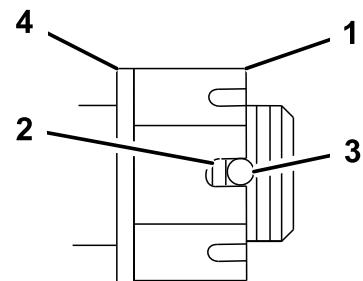

Figure 58
4. Check the distance from bottom of slot in nut to inside edge of hole. Two threads or less should be showing (Figure 58).
6. Torque the slotted nut to 125 ft-lb. (170 N-m) (Figure 58).
7. Tighten the nut until the next set of slots line up with the hole in the shaft (Figure 58).